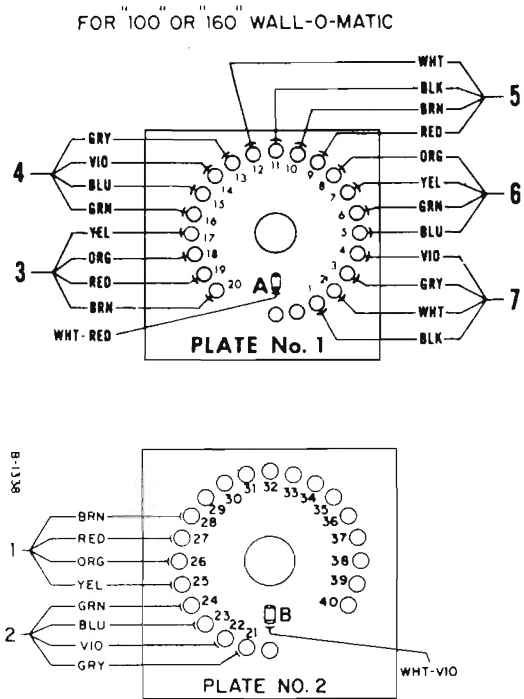

Figure 2. Contact Plate Wiring Detail
3. Revise wiring on No. 1 and No. 2 contact plates (see Figure 2) for the Wall-O-Matics to be used in the system.